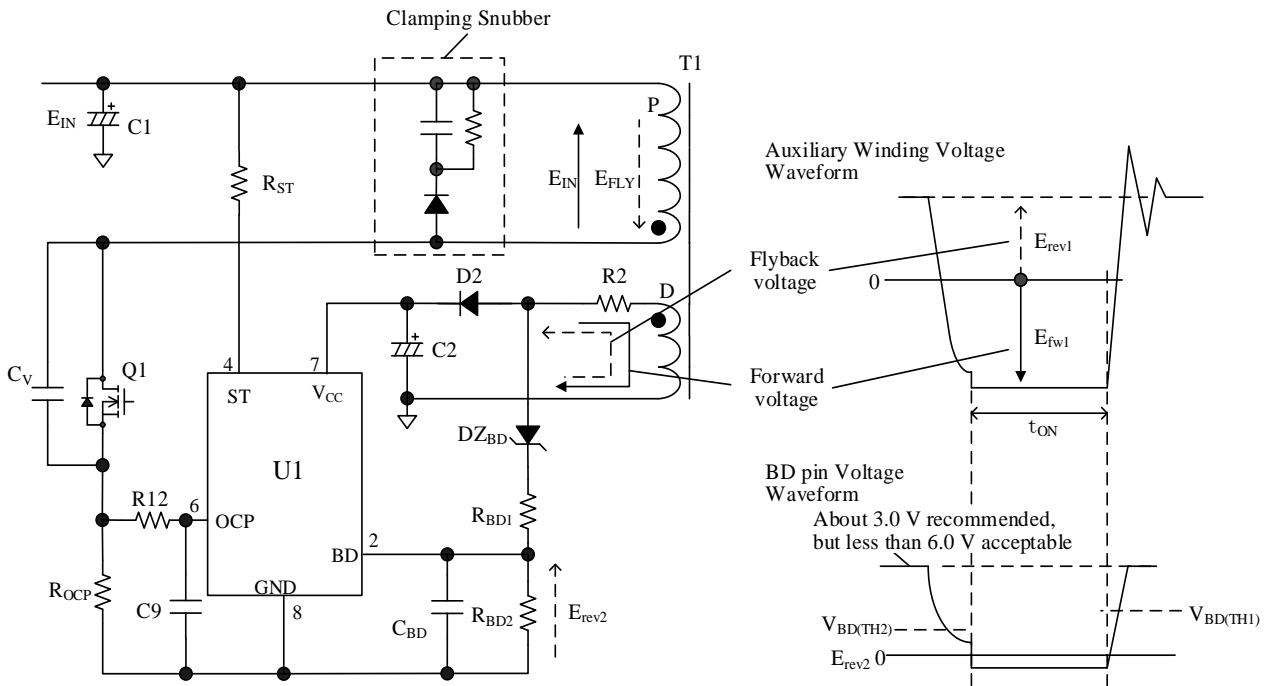

Figure 8-13. BD Pin Peripheral Circuit (Left) and Auxiliary Winding Voltage (Right)
Figure 8-13 shows the voltage waveform of the BD pin peripheral circuit and auxiliary winding, D.
The components  $DZ_{BD}$ ,  $R_{BD1}$ ,  $R_{BD2}$ , and  $C_{BD}$ , are connected to the BD pin peripheral circuit as shown in Figure 8-13, with values that are determined with the above-mentioned steps 1) and 2).
- The clamping snubber circuit (see Figure 8-13) must be adjusted properly.